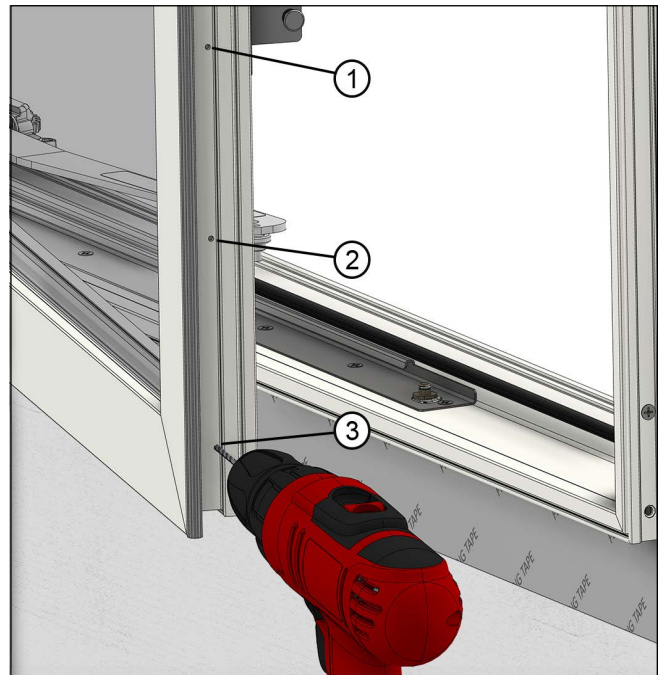
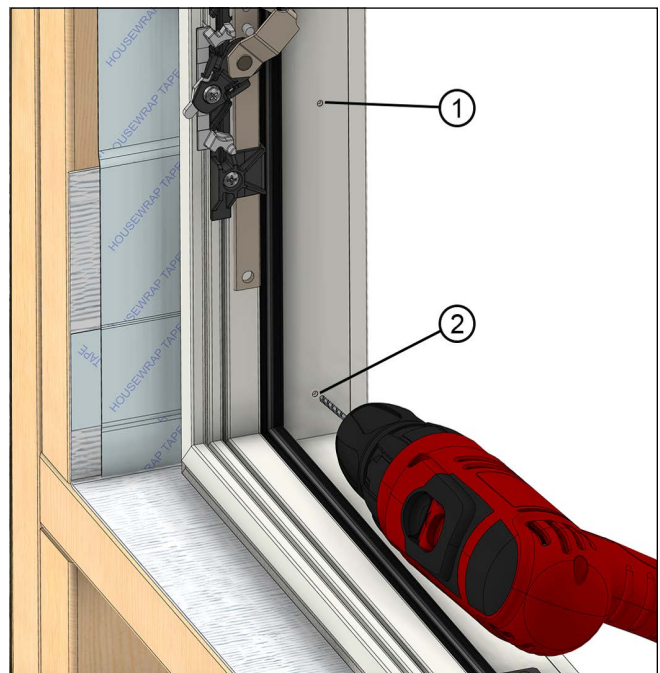

Figure 5 Sash locations for pre-drilling
Figure 6 Frame locations for pre-drilling
4. Use a 7/64" drill bit to pre-drill the hole locations, do not drill beyond the first wall of Ultrex. See Figure 5 and Figure 6.